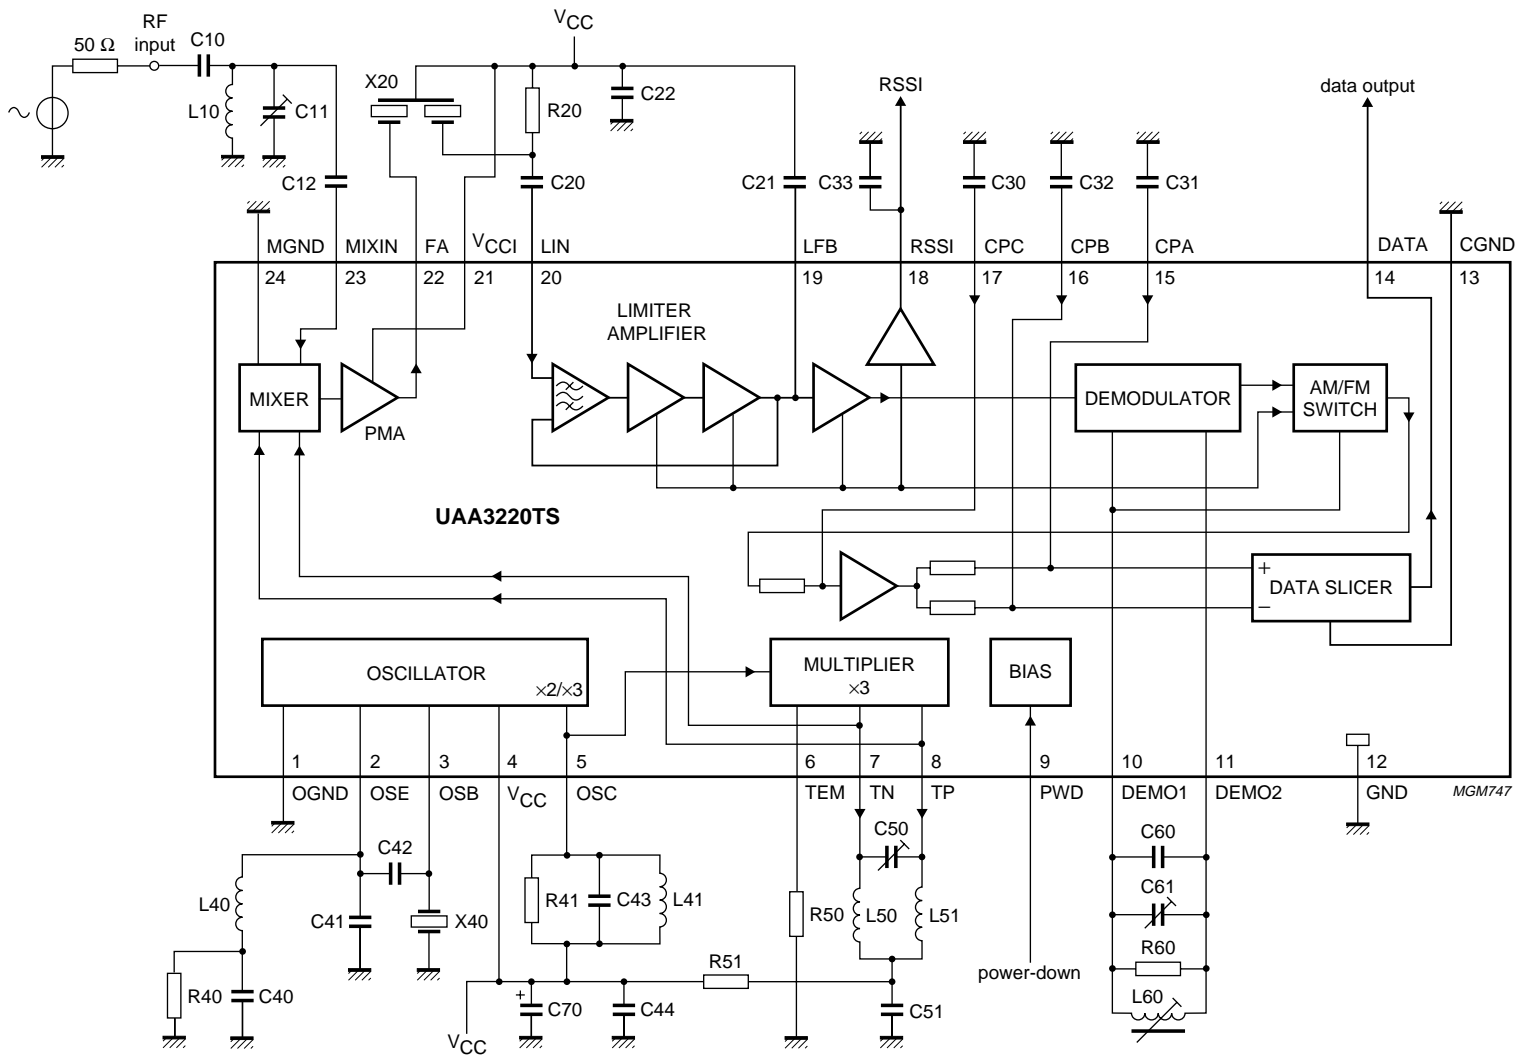

Fig.9 Application diagram (FSK reception).
- (1) For test circuit see Fig.9.
(1) For test circuit see Fig.9.
**Table 4** Component list for Figs 9 and 10;  $f_{i(RF)} = 433.92$  MHz
**Table 5** Component list for Figs 9 and 10;  $f_{i(RF)} = 868.35$  MHz